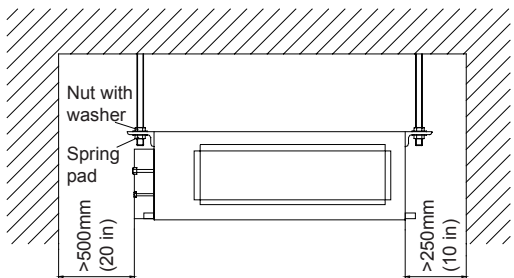

Fig. 2
- 4) Ensure there is appropriate clearances shown in Fig. 2 for access and maintenance.